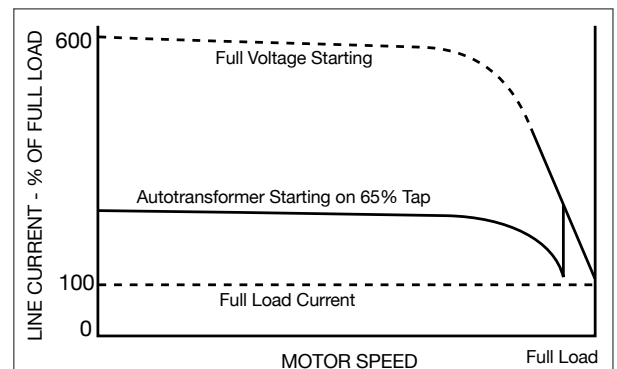

Figure 5: Autotransformer Starting
**Autotransformer starters** – This type of starter provides reduced voltage at the motor terminals from a tapped 3-phase autotransformer and generally gives the best results with generators. See Figure 5. Taps on the transformer provide selection of 80, 65 or 50 percent of initial line voltage to the motor terminals. Starting torque is reduced by the voltage squared to give 64, 42 or 25 percent of the full-voltage value,